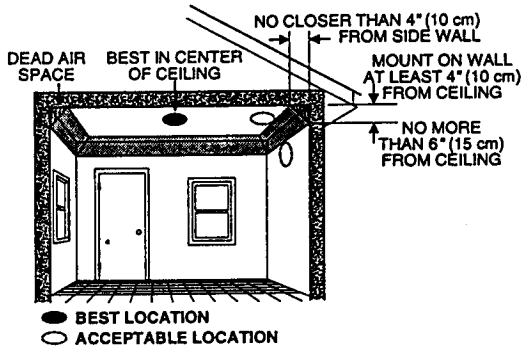

Figure 3. Smoke sensor mounting locations.
- Install sensors on the ceiling as close to the center of the room as possible. If this is not practical, install it on the ceiling no closer than 4 inches (10 cm) from any wall or corner (Figure 3).
- If ceiling mounting is not practical, install sensors on an inside wall between 4 and 6 inches (10 and 15 cm) from the ceiling (Figure 3).